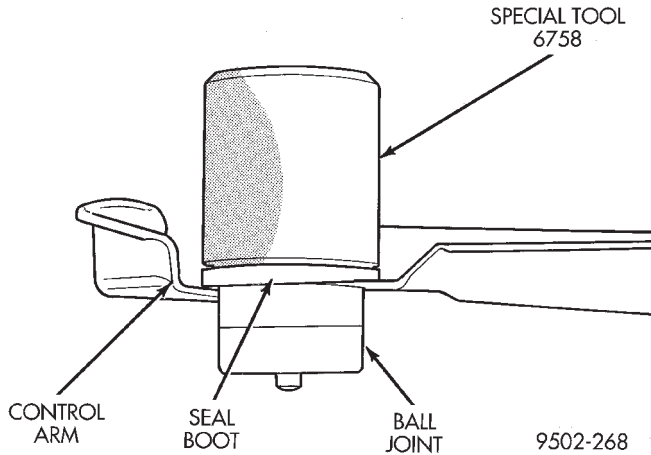

Fig. 114 Seal Boot Installation On Ball Joint
(3) Position Receiving Cup, Special Tool 6758 over sealing boot so it is aligned properly with bottom edge of sealing boot (Fig. 114). Apply pressure **BY HAND** to special tool 6758, until sealing boot is pressed squarely against surface of upper control arm.
(4) Properly lubricate the upper ball joint assembly using only Mopar Multi-Mileage Lube or an equivalent.